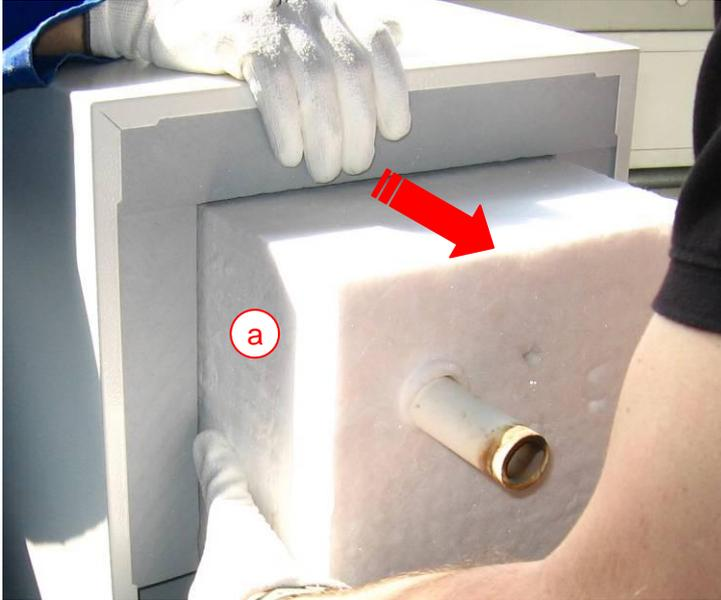

Fig. 38 – Removing the muffle
- Push the defective muffle including the insulation wool backwards out of the unit (fig. 38 a)